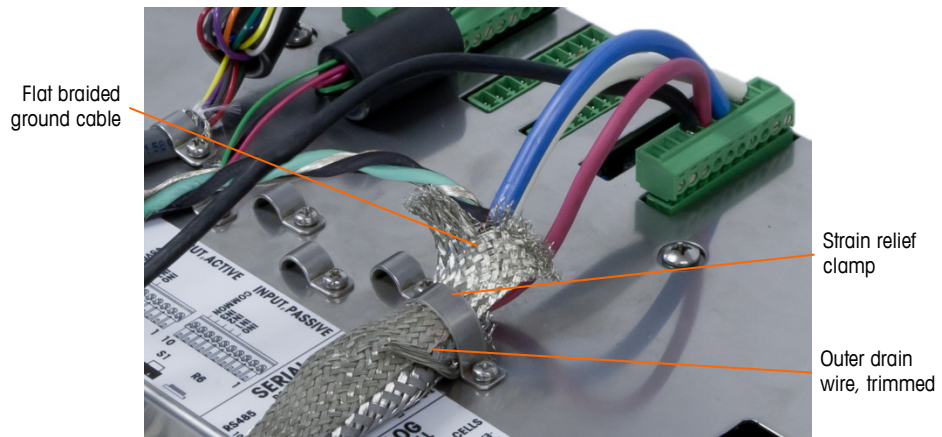

Figure A-66: POWERCELL PDX Home Run Outer Braid Termination, Panel Mount Enclosure
- b. Slide forward the outer braid to cover over the inner braid and foil. Pull the outer drain wire back over the outer braid and trim it to approximately 25 mm (1 inch). Place the flat braided ground cable around the home run cable and the drain wire before finally securing everything to the back cover of the IND780 using the large strain relief cable clamp provided with the unit (Figure A-66). The other end of the flat braided cable is terminated at the ground rod.